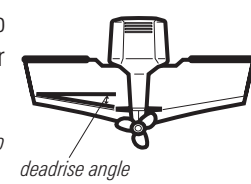

Figure 4
**NOTE:** The hydrodynamic shape of your transducer allows it to point straight down without deadrise adjustment (Figure 4).